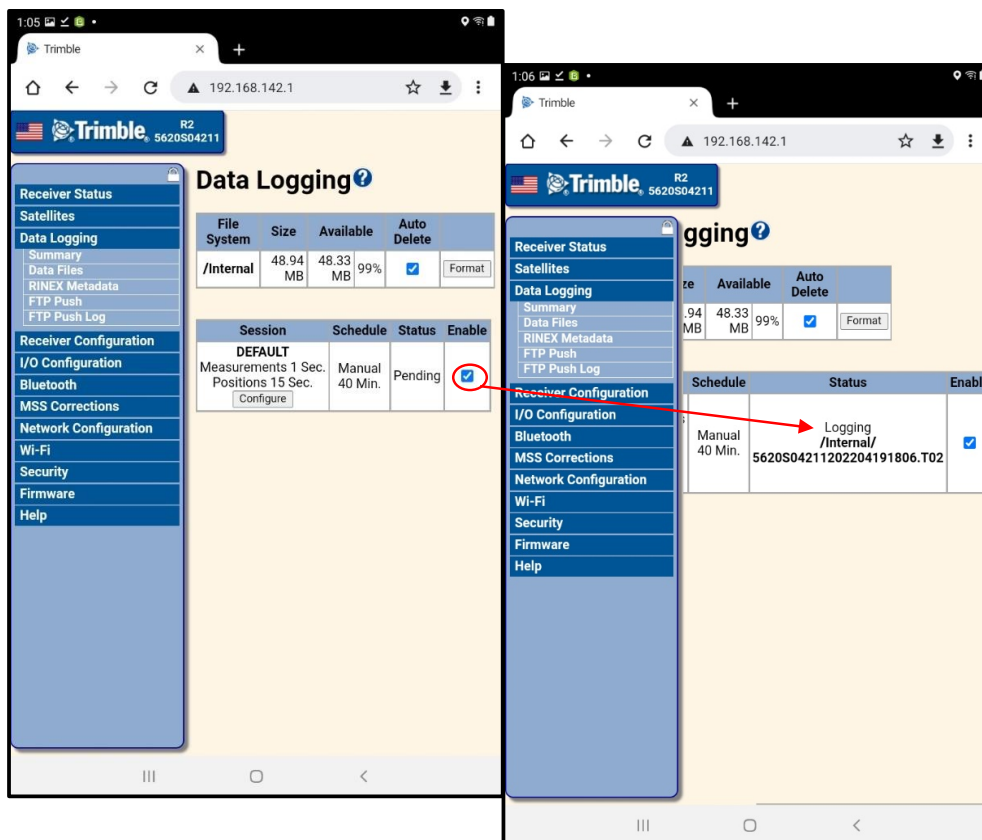

Figure 37. Figure showing Trimble R2 workflow for confirming data is logging with red circles and arrows showing the workflow
2. Connect to the GPS Wi-Fi, check settings, and navigate to data logging tab (Figure 37)